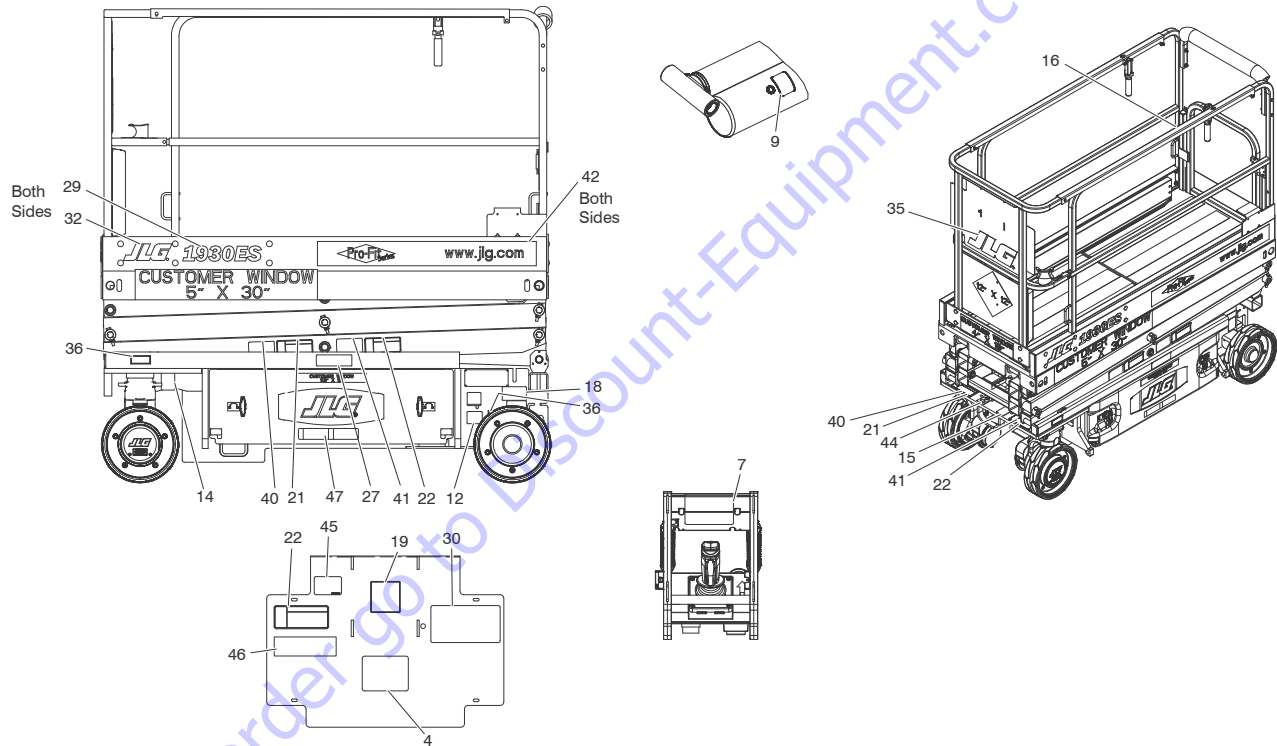

Figure 3-3. Decal Location - 1930ES- Sheet 1 of 2
- The BDI will convey the same information as the BDI on the platform control station. (see Figure 3-3., Platform Control Station)